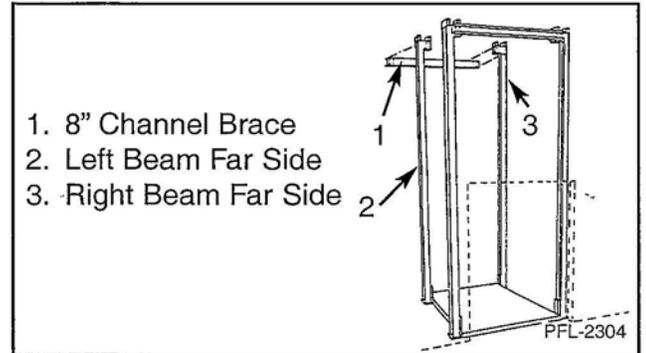

Figure 13
17. Repeat Steps 8 through 16 on far side, right and left beams. See Figure 13.